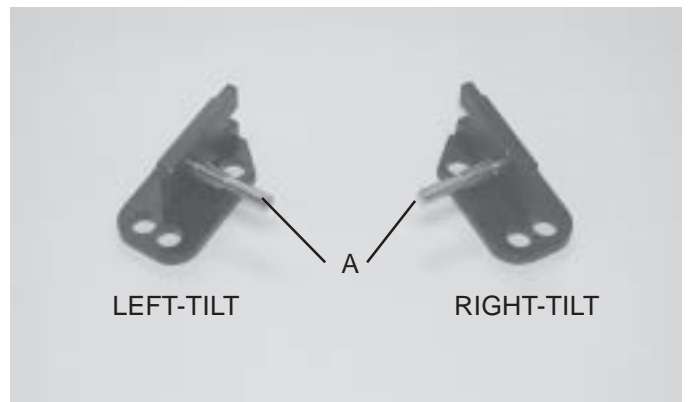

Fig. 5
3. Fig. 5 illustrates stud (A) assembled to splitter mounting bracket for both the left and right tilting arbor saw.